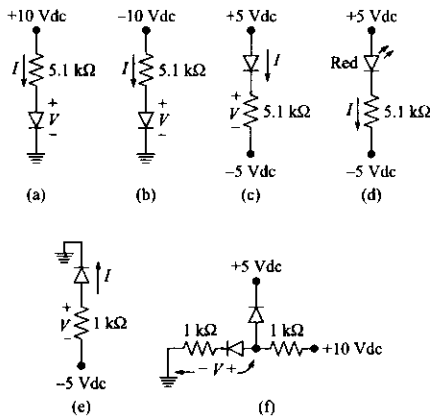

Fig. 14.47
14.1 For each assigned circuit in Fig. 14.47, determine the indicated current I and/or voltage V .